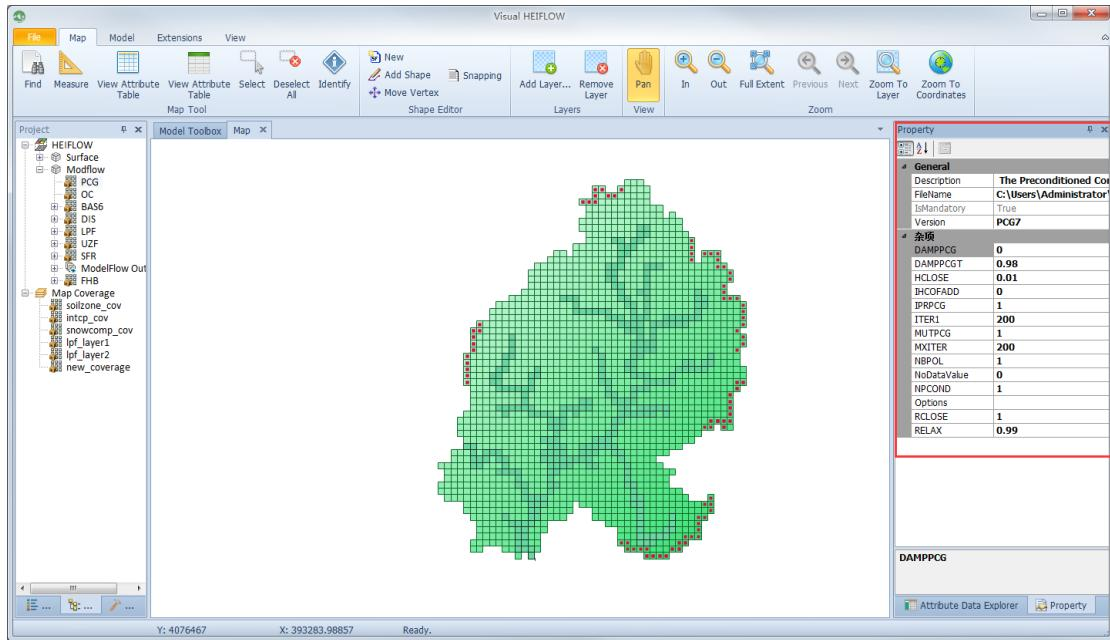

Figure 5-32. Property of the PCG package.
- 1) In the Project Explorer, right click on the FHB item, and select Property. The Property Panel appears (Figure 5-32).